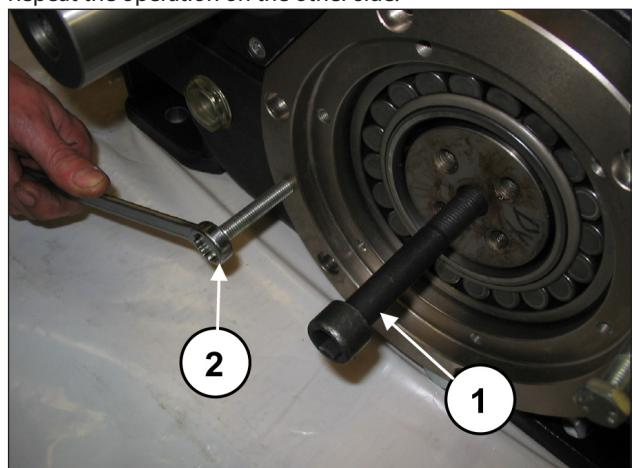
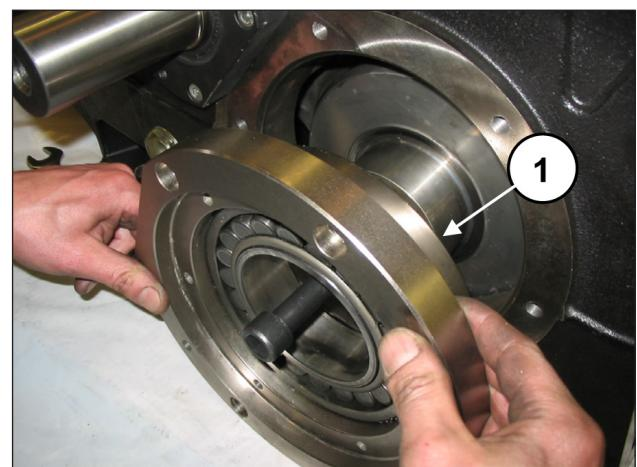

Fig. 23
Fig. 24
Apply an M16 threaded pin to one end of the bend shaft (pos. ①, Fig. 23) and, while keeping it raised, take out the bearing support cover complete with bearing and O-ring (pos. ①, Fig. 24). To help with their removal, use 2 x M10 grub screws or screws (pos. ②, Fig. 23) as extractors. Repeat the operation on the other side.